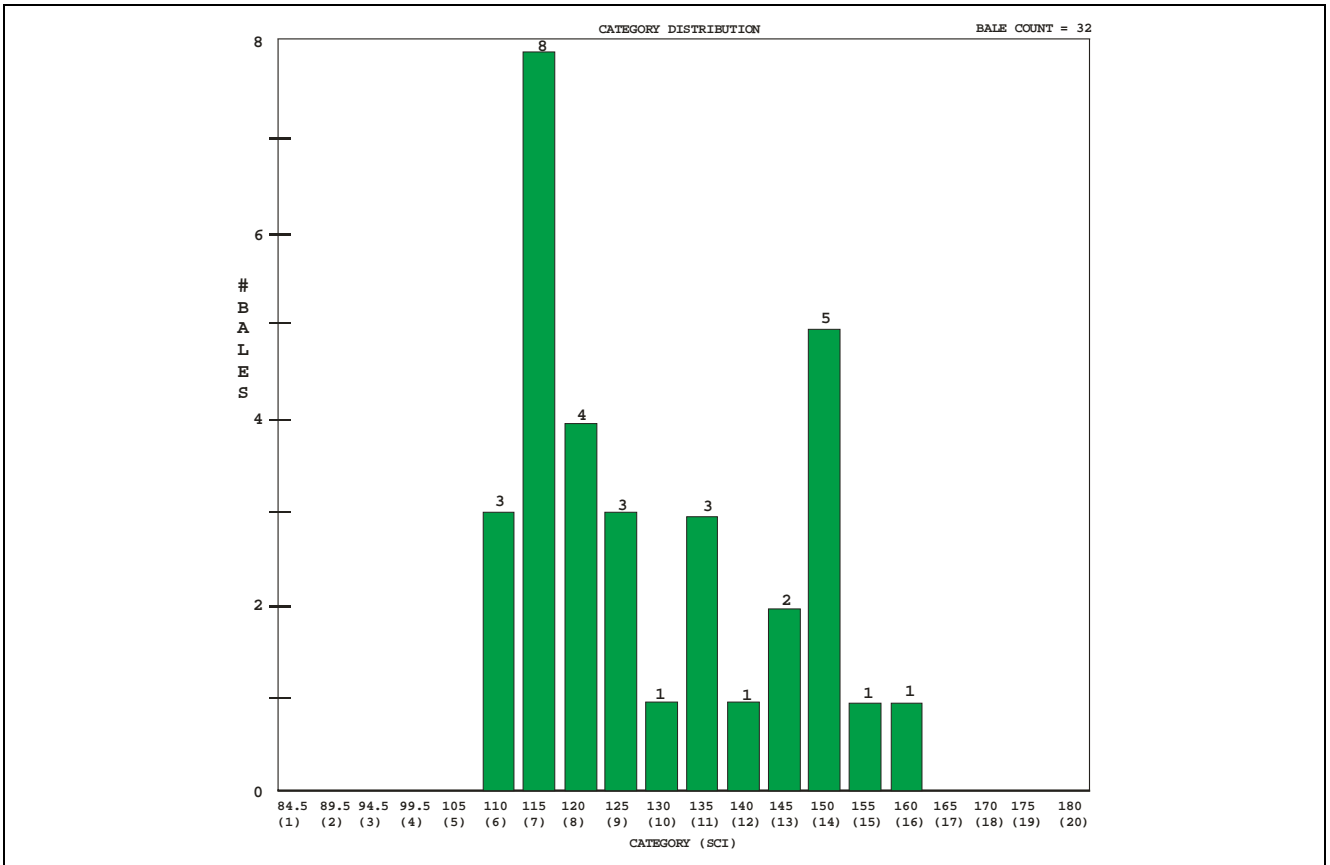
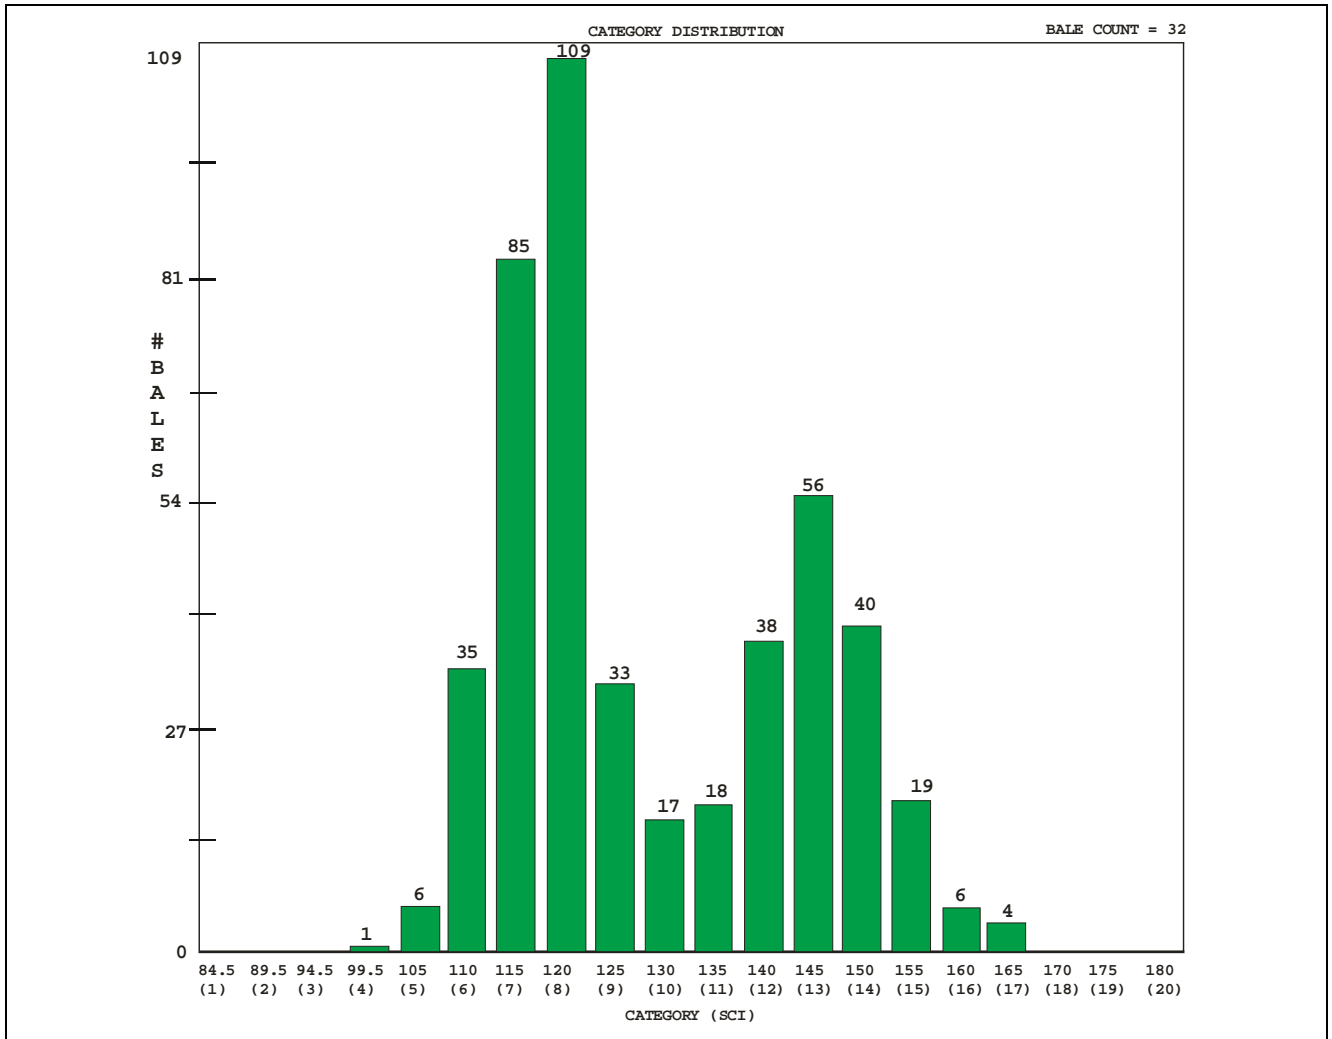

Fig. 6-1 SCI Histogram of Lot 329, 04/15/99
Fig. 6-3 SCI Histogram of all Lots, 04/15/99
3. Print the histograms of SCI data of each lot ID and observe the variations of each laydown. Fig. 6-1 through Fig. 6-3 show how these histograms might look.